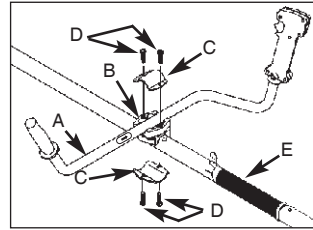

Fig. 1C
1. To install handle onto unit, you will need the following components from your user kit: “Bike” handle (A), fixing holder (B), clamp (C) and screws (D). (Fig. 1C)
2. Install the fixing holder (B) before the sponge sleeve (E), and adjust it to a proper position.
3. Install the Bike handle (A) on the fixing holder, put the other clamp (C) over bike-handle, adjust handle to appropriate position and tighten the other 2 screws (D). The left handle shall be at least 200mm horizontally perpendicular from the shaft tube. The handle shaft must be mounted on the right side of direction of arrow head on the handle shaft.